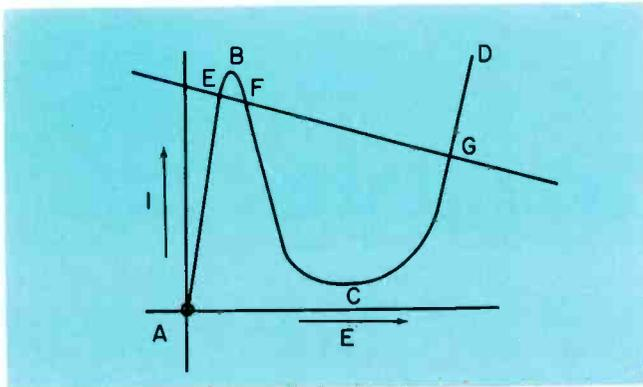

Fig. 1—Tunnel diode E/I characteristic curve showing peak at B, valley point at C, and further current rise to D as voltage increases.
As voltage increases from zero the diode's current increases to a sharp peak (B, Fig. 1); it then dips into a valley (C) after which the current rises again.